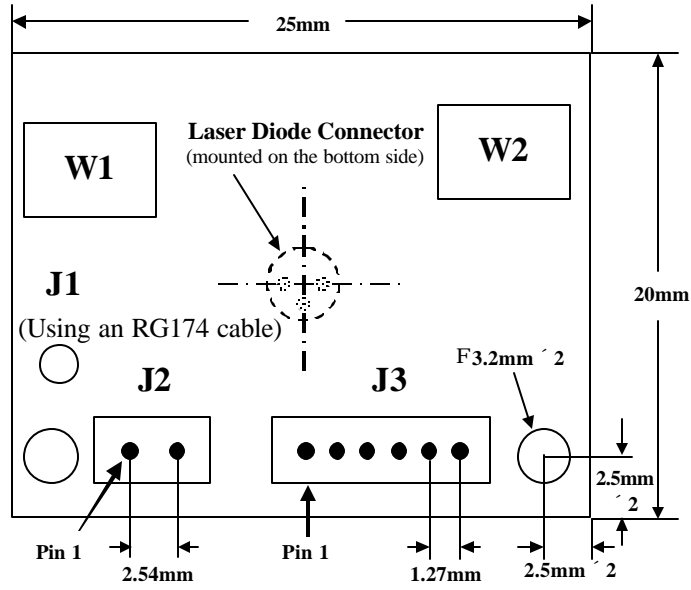

Figure 1 Top View of ATLD201V1
### Pin Descriptions (See Figure 1 and 2 for laser controller ATLD201V1 views)
- 1. Power up.** The laser controller ATLD201V1 circuit board is shown in Figure 1 and 2. Connect the ATLD201V1 according to Figure 3. Do not insert the laser diode yet.